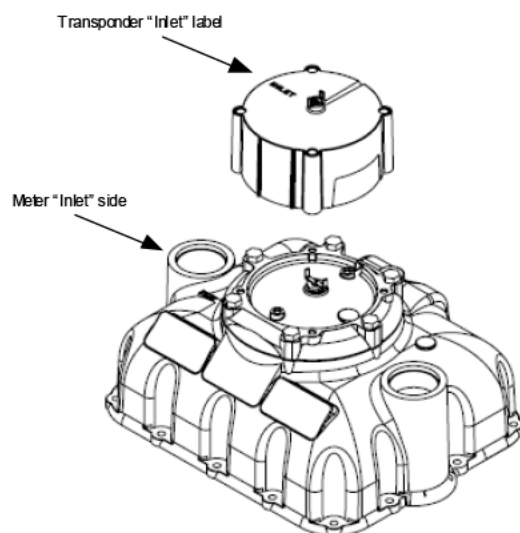

Figure 1. American C & I Gas meter with DGT
- Examine the orientation of the transponder and ensure that the "inlet" label on the transponder will align with the inlet side of the meter (Figure 1).